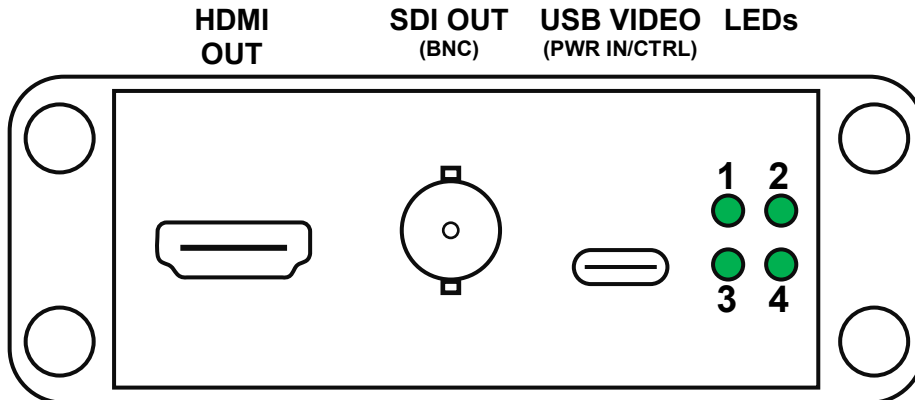

Figure 2. Video output side of housed BlueBird SDI Adapter showing LEDs
1. The LED numbering on the silk screen of the issue 01 board is incorrect, the numbering shown in Figure 2 is correct.